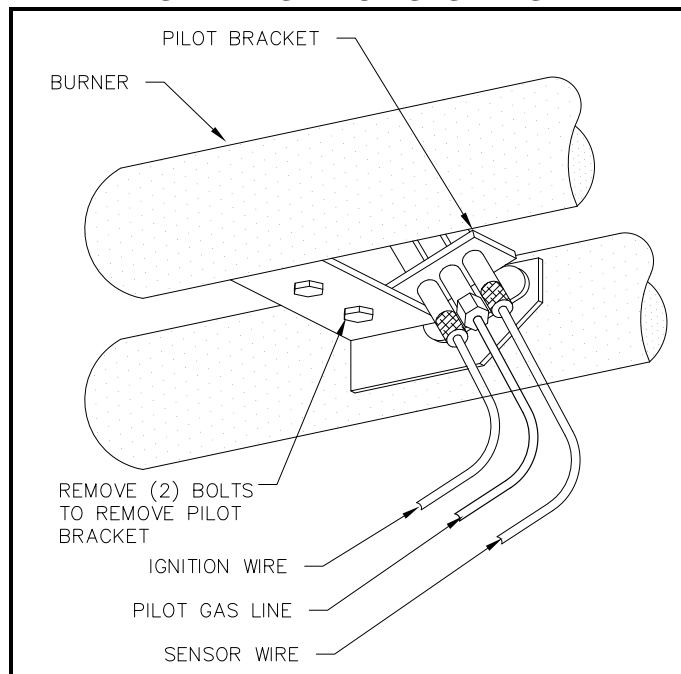

Figure 2-7
1. Pilot assemblies should be checked by a qualified serviceman using control manufacturer's instructions. Wiring connections on the ignition high voltage wire and flame sensor wire must be tight. Clearance between these wires and metal parts of the water heater or burner must be maintained to avoid possible shorting out. Positions of the electrode, flame sensor and pilot flames are very important and have been set by the manufacturer. If they are loose or if ceramic insulators are cracked or broken, replace the pilot assembly. To replace, remove pilot bracket from bottom of burner, disconnect the pilot gas line and replace pilot assembly on pilot bracket. Replace in reverse order. Do not bend or distort pilot bracket as this determines pilot flame position relative to burner orifices. (See Figure 2-7). Inspect individual burner jets for evidence of overheating. Replace burner jets as necessary.